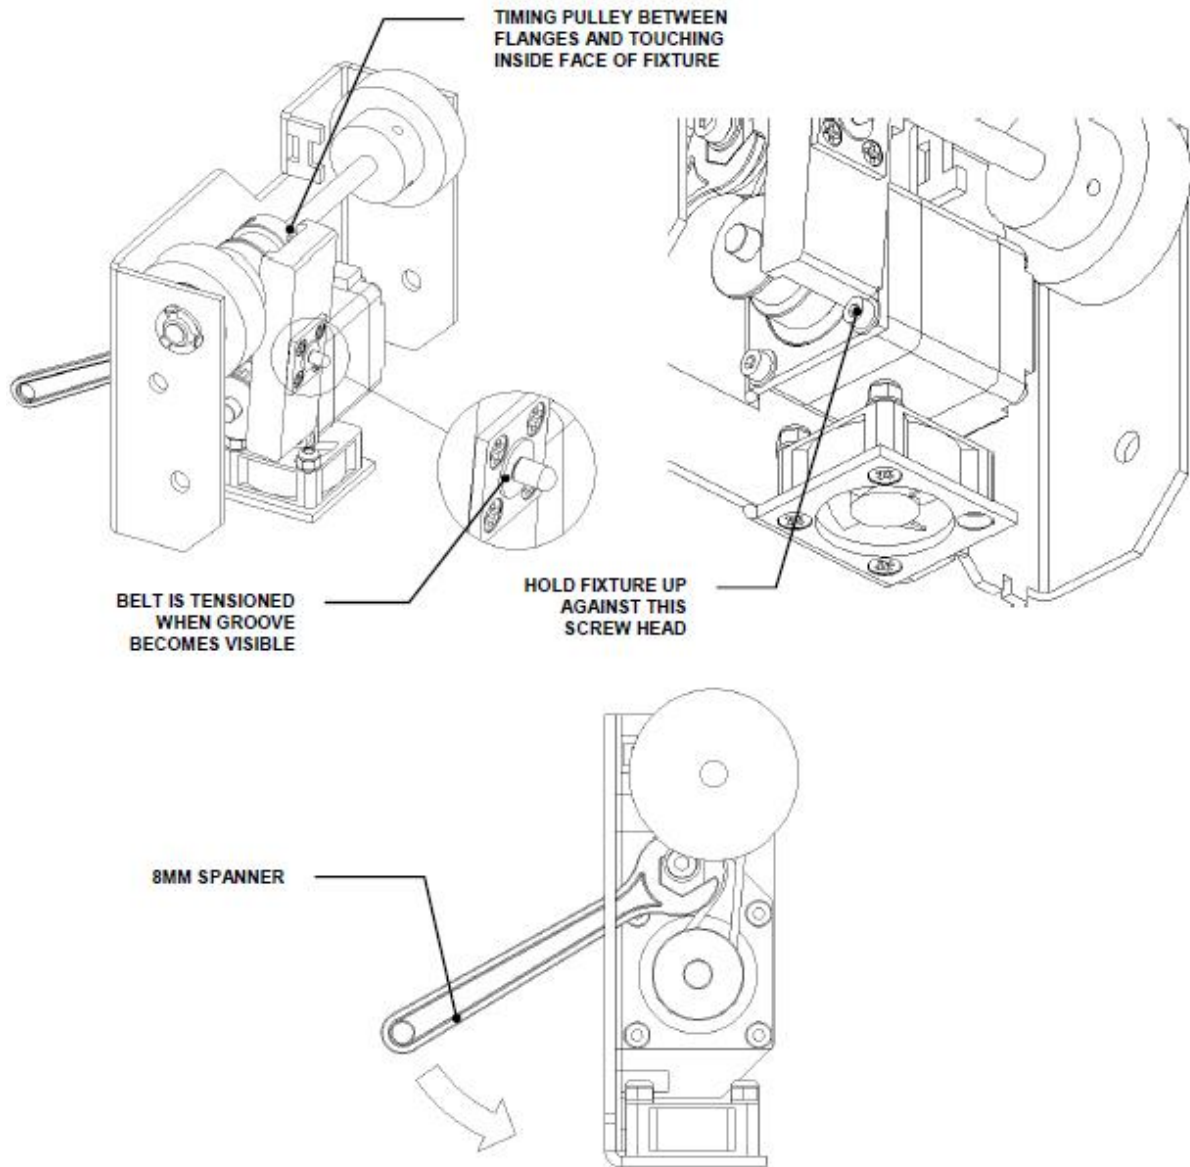

Figure I-14: Securing the Tensioning Idler
5. Position the Incubator Belt Tensioning Fixture so the two timing pulleys are between the flanges of the fixture and touching the flat face of the fixture. One end of the fixture should also be held against the motor mounting screw as shown. Next, turn the eccentric tensioning idler using an 8mm spanner as shown. The fixture plunger will move out from the fixture. When the groove of the plunger becomes visible, tighten the screw securing the tensioning idler in place (Figure I-14).